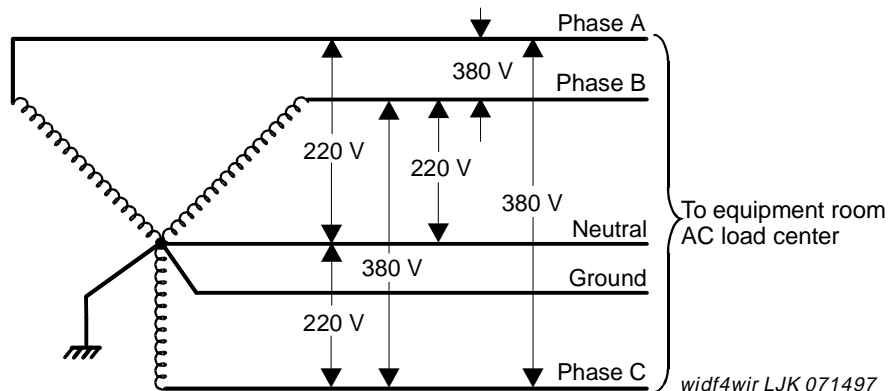

Figure 19. International, Three Phase, 220/380 VAC, 50-Hz Source
- International 5-wire, Y, 220/380 VAC. See Figure 19.